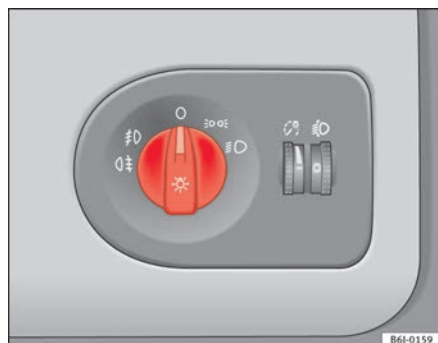

Fig. 52 Detailed view of instrument panel: lights, fog light and rear fog light control
- Turn the light switch $\Rightarrow$ fig. 52 to position ☞ .